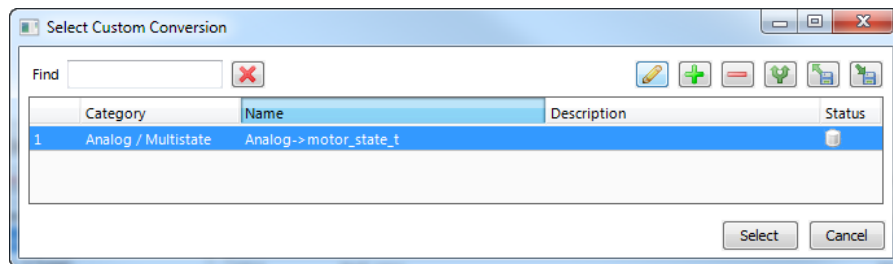

Figure 36: Choose a custom conversion.
8. To add a new conversion to this item, click on the  button. A dialog opens, which displays the matching adaptors already available in the library as shown in Figure 36.